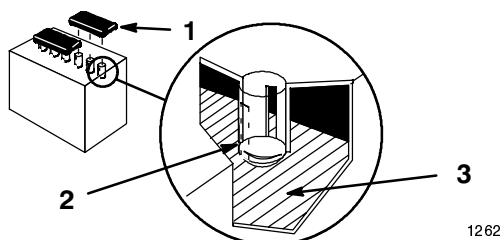

Figure 40
2. Open covers to see into the cells. The electrolyte must be up to the lower part of the tube (Fig. 40). Do not allow the electrolyte to get below the plates. (Fig. 40).
2. Lift off the filler caps (Fig. 40).
3. Slowly pour distilled water into each battery cell until the level is up to the lower part of the tube (Fig. 40).